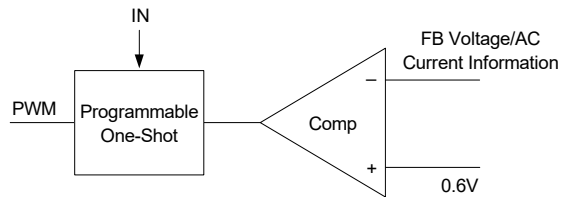

Figure 2. Simplified Control Schematic of AOZ2255LQI-31
The control algorithm of AOZ2255LQI-31 is constant-on-time PWM control with input feed-forward. The simplified control schematic is shown in Figure 2. The high-side switch on-time is determined solely by a one-shot whose pulse width is inversely proportional to input voltage (IN). The one-shot is triggered when the internal 0.6V is higher than the combined information of FB voltage and the AC current information of inductor, which is processed and obtained through the sensed low-side MOSFET current once it turns-on. The added AC current information can help the stability of constant-on time control even with pure ceramic output capacitors, which have very low ESR. The AC current information has no DC offset, which does not cause offset with output load change, which is fundamentally different from other V^2 constant-on time control schemes.